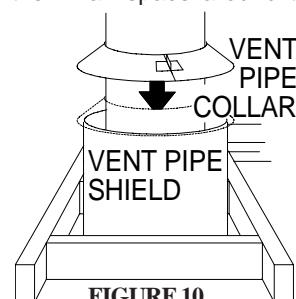
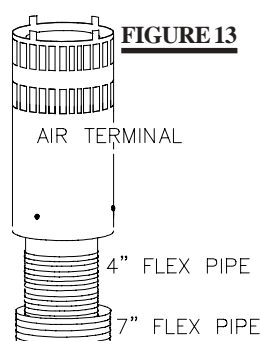

FIGURE 10
FIGURE 13
6. Thread the air terminal pipe assembly down through the roof support and attach, ensuring that a minimum 16" of air terminal will penetrate the roof when fastened. **FIGURE 13.** If the attic space is tight, we recommend threading the Wolf Steel vent pipe collar or equivalent loosely onto the air terminal assembly as it is passed through the attic. **FIGURE 10.** The air terminal must be located vertically and plumb.